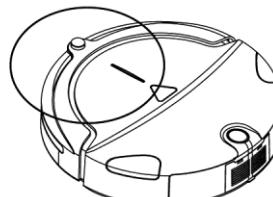

Figure 5
6. After the battery's power used up, the indicator will flash gradually; When the indicator becomes normally on, it means the battery is charged fully. (See Figure 5)
- 3.Reverse the blower, release 2 fasteners and open the cover. (Refer to Figure 4 and Figure 5)